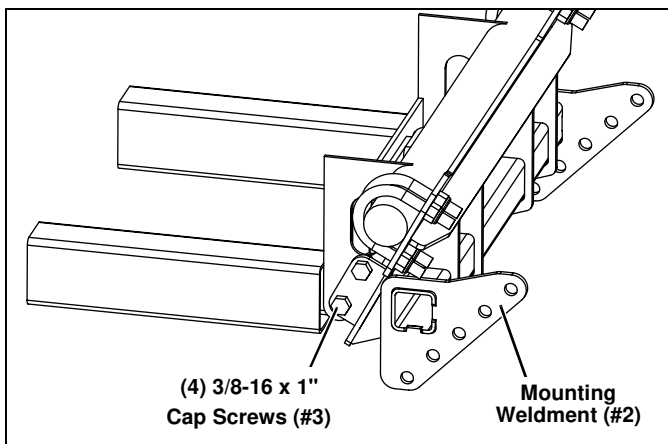

Figure 7
- Attach the vehicle's frame gusset to the Mounting Weldment (#2) with (4) 3/8"-16 x 1" Cap Screws (#3) and (4) 3/8"-16 Locknuts (#4). Two on each side. (See Figure 7.)